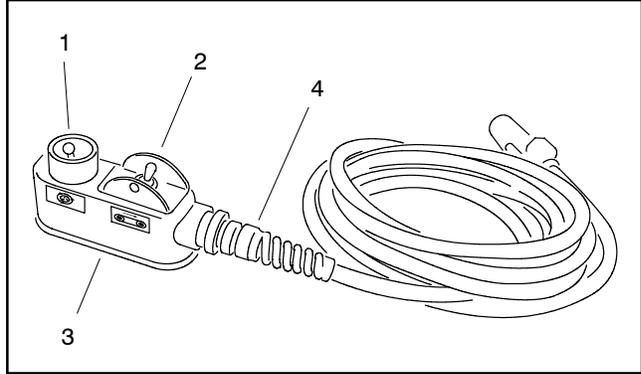

Figure 27
The pendant assembly allows the machine operator to engage the rear option (twin spinner or conveyor) and the floor from the tow vehicle operator's position. The pendant assembly includes two (2) switches, the junction box and the wire harness (Fig. 27).
Both of the switches used in the ProPass pendant are two (2) position switches with two (2) terminals. To access the switch terminals for testing, remove the cover from the bottom of the junction box. Make sure that electrical power to the switches is disconnected before testing the switches. Use a multimeter to check the switch for continuity. There should not be continuity between the switch terminals when the switch is in the OFF position as shown in Figure 27. There should be continuity between the switch terminals when the switch is in the ON position.